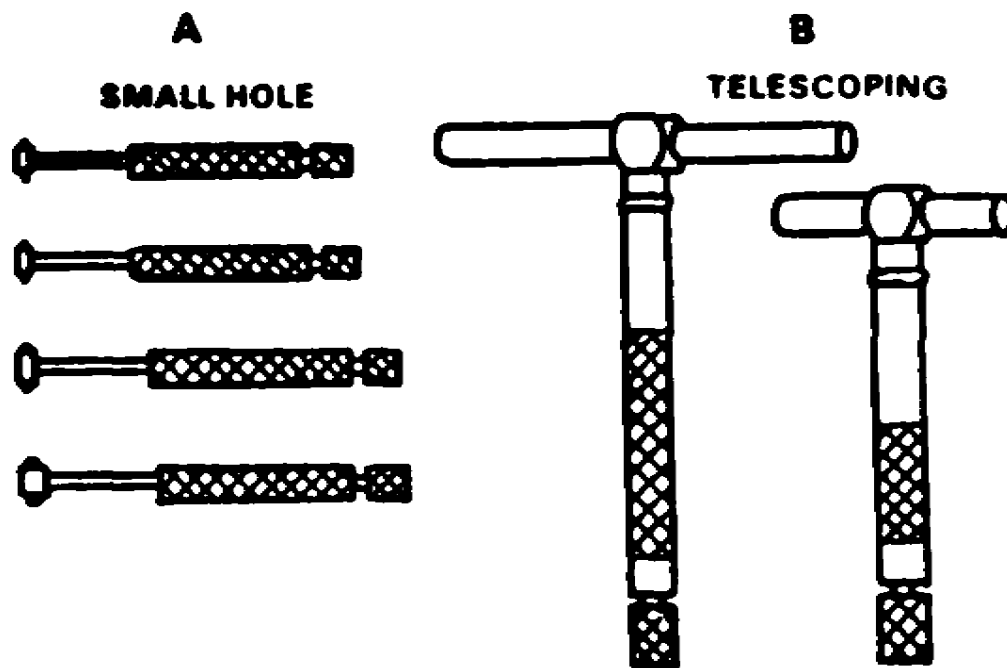

FIGURE 52. SMALL HOLE AND TELESCOPING GAGES (PARTS A AND B)
- a. Small hole gages, Figure 52, Part A, are adjustable, having a rounded measuring member. A knurled screw in the end of the handle is turned to expand the ball-shaped end in small holes and recesses. A micrometer caliper is used to measure the ball end. Maximum measuring capacity is 1/2 inch.
- b. Telescoping gages, Figure 52, Part B, are used to gage larger holes and to measure inside distances. A knurled screw in the end of the handle locks the plunger in the measuring position. Maximum measuring capacity is 6 inches. As with small hole gages, measurements must be calipered on the gage using a micrometer.